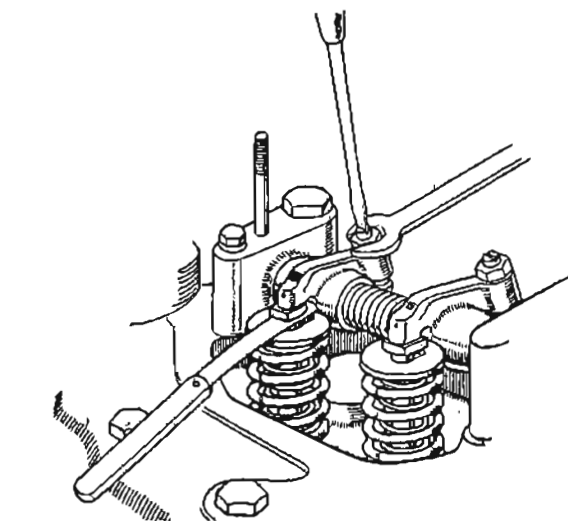

Figure 4. Adjusting Tappets
To adjust tappets, proceed as follows: (Figure 4)
2. Check No. 1 tappet clearance with .010" (0.25mm) feeler gauge inserted between rocker and valve stem. (Figure 4)
3. If adjustment is required, loosen locknut and rotate tappet adjusting screw until correct clearance is obtained. (Figure 4)